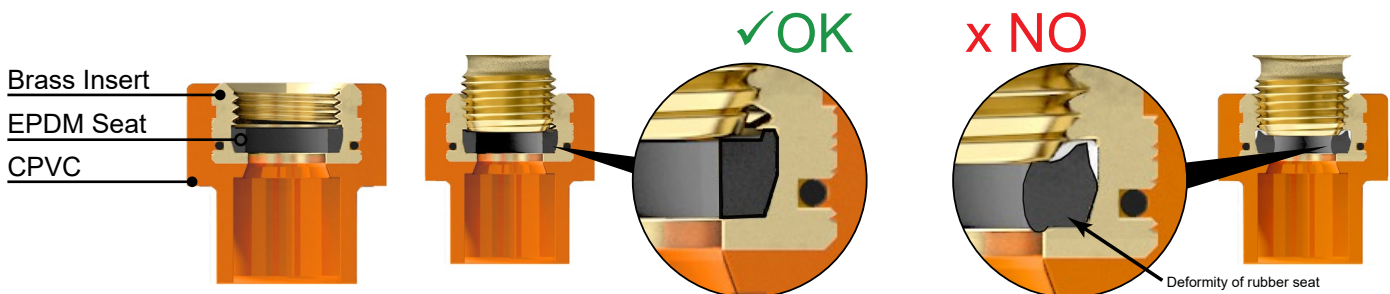

Figure 1: Sprinkler Contact on Rubber Seat
3. Using sprinkler manufacturer's recommended wrench, turn sprinkler clockwise (CW) a minimum of one half ($\frac{1}{2}$) turn for seal. If sprinkler frame arms require alignment with pipe, continue to rotate CW additional to align, up to the maximum of $1\frac{1}{4}$ turns from initial seat to sprinkler contact as stated and as shown in Figure 1.
Do not tighten more than $1\frac{1}{4}$ turns from initial sprinkler touch to rubber seat. Over-tightening will cause the rubber seat to protrude into the waterway and reduce the K-factor which impedes flow. Additionally, permanent damage to the rubber seat will occur leading to failure and leakage. Refer to Figure 1.